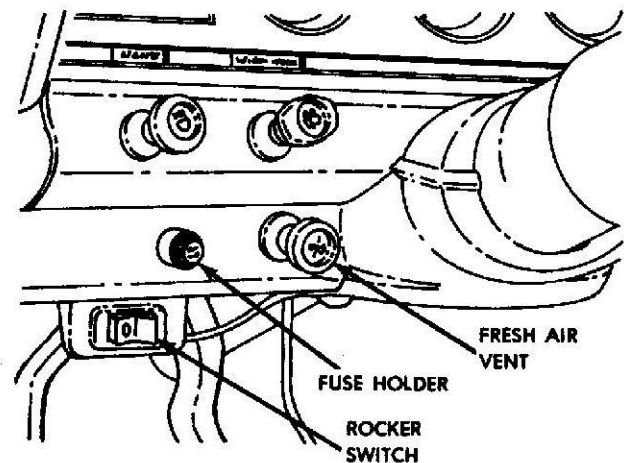

Fig. 4 Fuse Holder and Switch Location
(8) Connect terminal end of 6 inch yellow wire to left hand lamp.
(9) Strip ¼ inch of insulation from other end of 6 inch yellow wire.
(10) Insert both ends of yellow wire from roll bar and 6 inch yellow wire from lamp into 3-way butt connector and crimp securely.
(11) Push 3-way connector and wires into left hand access hole in roll bar.
(12) Insert strain relief bushing into left hand access hole.
(13) Route yellow wire extending from pick-up box along inner side of left frame rail to engine compartment.
(14) Route wire up dash panel (firewall) and through heater vacuum control hose grommet into passenger compartment.
(15) Drill a ½ inch diameter hole in lower instrument panel 2-½ - to - 3 inches left of fresh air vent knob.
(16) Install fuse holder (Fig. 4).
(17) Drill two 1/8 inch holes under instrument panel, below fuse holder. Use rocker switch as template.
(18) Install rocker switch (Fig. 4).
(19) Attach one end of 12 inch brown wire to positive (+) terminal of rocker switch. Attach other end to straight side terminal of fuse holder.
(20) Attach one end of 6 inch black wire to negative (-) terminal of rocker switch. Attach other end to steering column collar trim screw or other suitable ground.
(21) Route yellow wire from lamps to rocker switch and cut off excess.
(22) Strip ¼ inch of insulation from yellow wire, install female spade terminal and crimp.